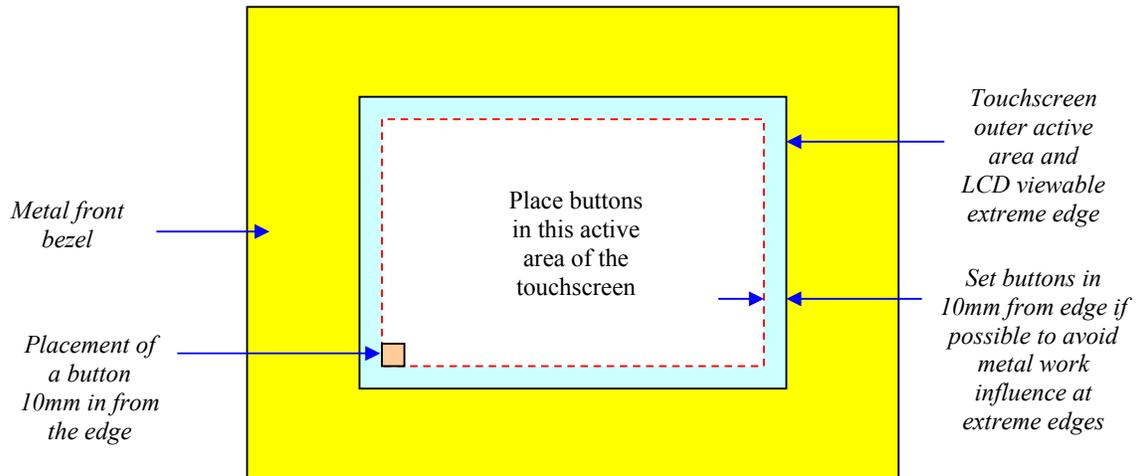

Figure 4: Recommended Metal bezel spacing and activation button placements
- Ideally the front metal bezel aperture should be a few millimetres wider all round than the active area of the touchscreen. It is also recommended that the software that is to be executed in the final application should have all critical activation buttons placed as least 10mm in from the edge of the active area of the touchscreen, as illustrated in Figure 4. Activation buttons should also be made a significant size for ease of use by the user. Avoid placing critical activation buttons in extreme corners or edges of the touchscreen active area.